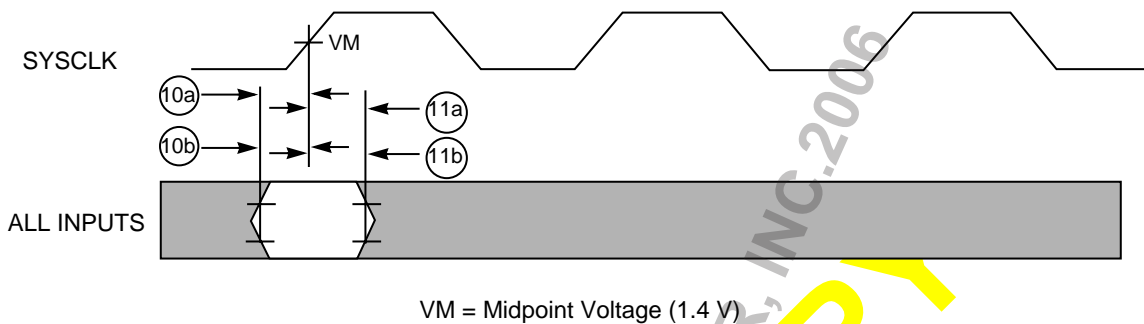
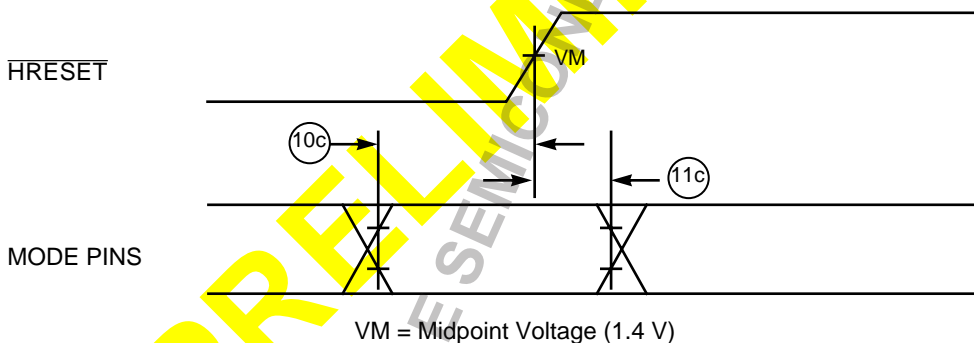

Figure 2. Input Timing Diagram
Figure 3. Mode Select Input Timing Diagram
Table 7 provides the input AC timing specifications for the PID7v-EC603e as defined in Figure 2 and Figure 3.
- The setup and hold time is with respect to the rising edge of HRESET (see Figure 3).
Figure 2 provides the input timing diagram for the PID7v-EC603e.
Figure 3 provides the mode select input timing diagram for the PID7v-EC603e.